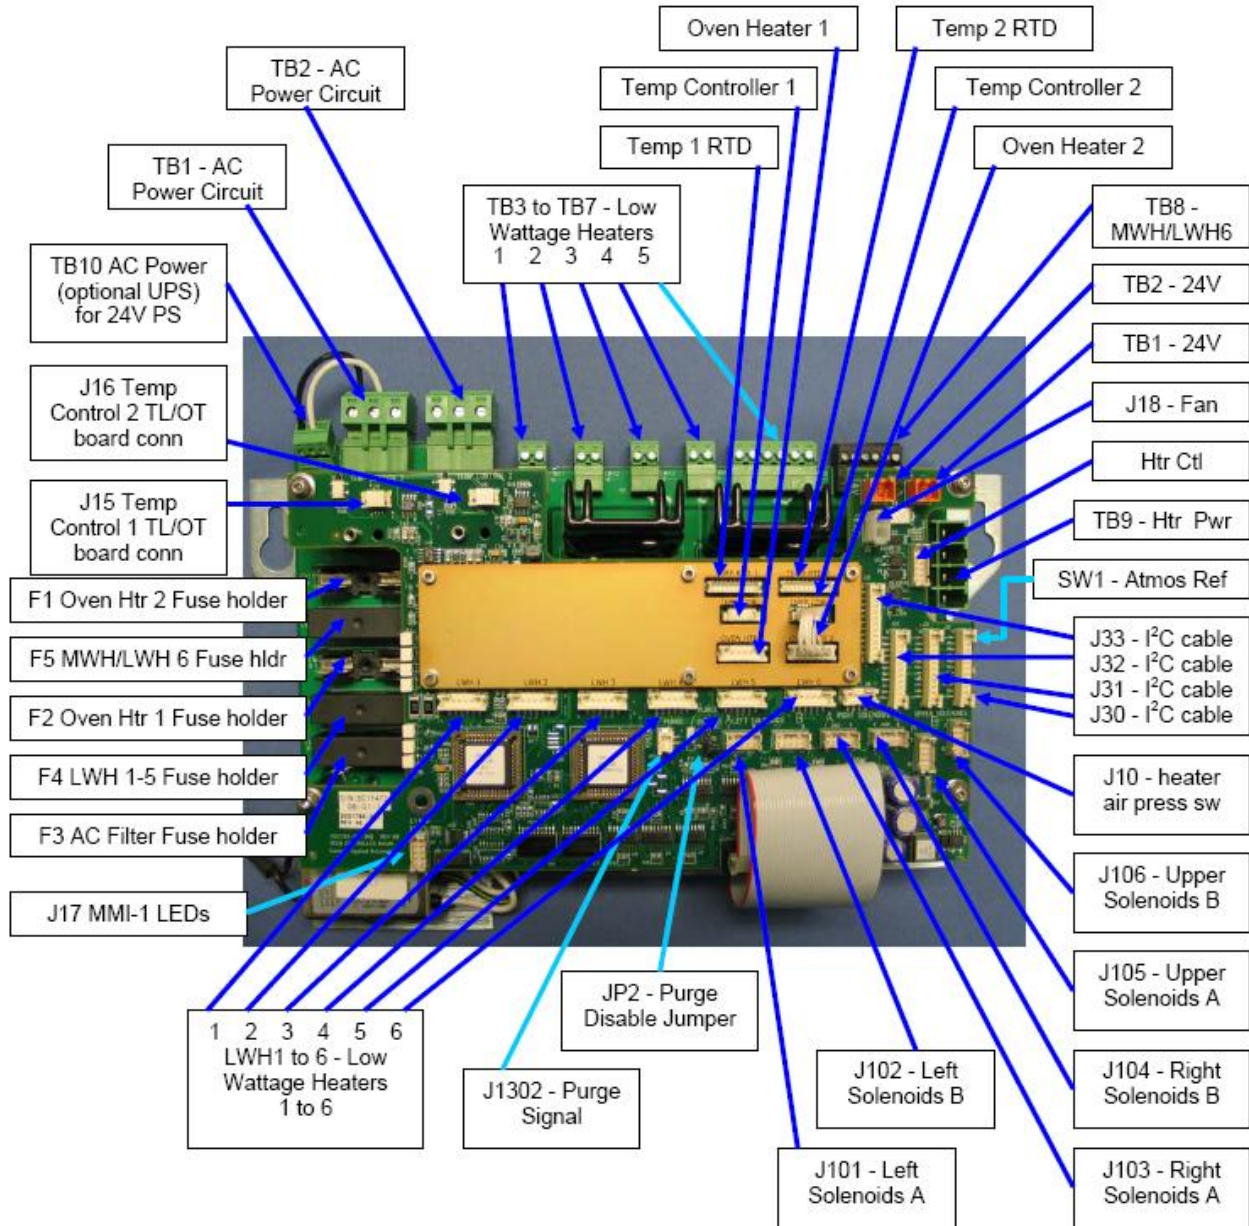

Figure 4-15: PECM2 Assembly Layout
5.	Unplug the atmospheric reference tube from the purge switch. (connection SW1, tubing connection on the bottom board of the PECM2, middle right side, back). Refer to Figure 4-15.
11.	Starting at the back of the PECM2, plug in all cables. Make sure that plug in locations and labels match. Refer to Figure 4-15.